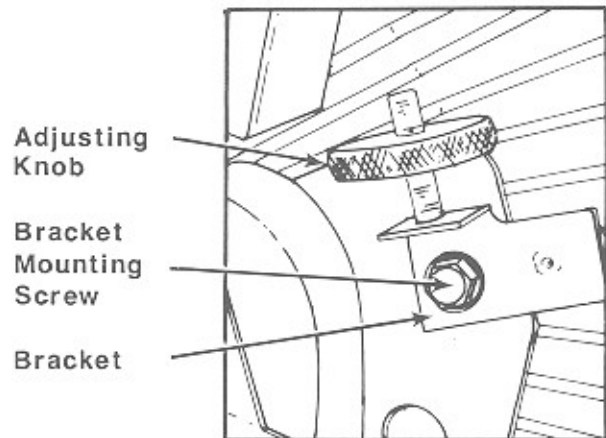

Figure 6-7. Optical Switch Adjustment
2. Loosen the optical switch bracket mounting screw, turn the adjustment knob counter clockwise to top of its travel, and move the bracket down to the bottom of its travel (*refer to figure 6-7*). Snug the optical switch mounting screw, so that the bracket can move with resistance.